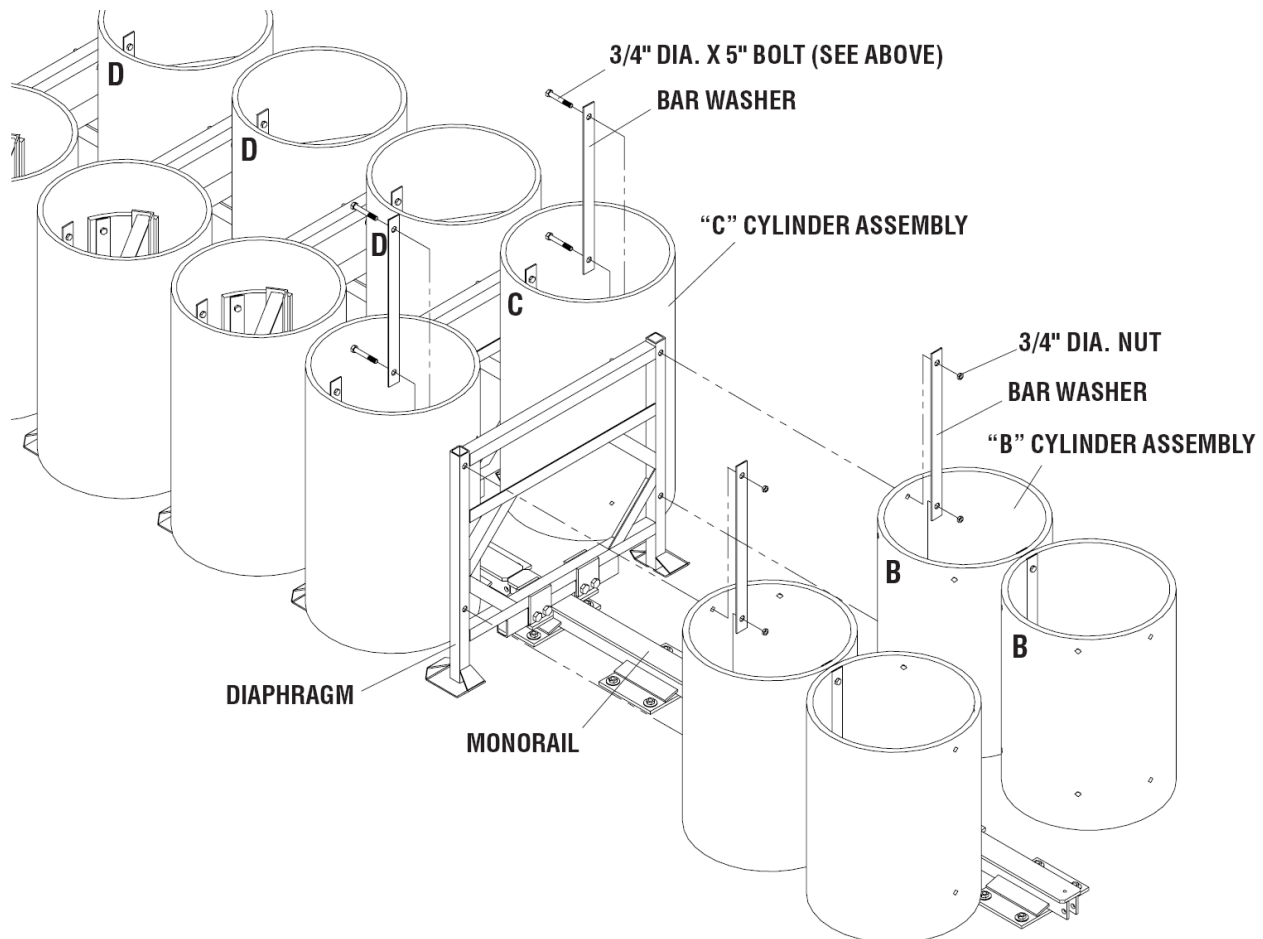

Figure 12
3. Reassemble "B" Cylinder/Diaphragm Assembly onto "C" Cylinder Assemblies as shown in Figure 12.